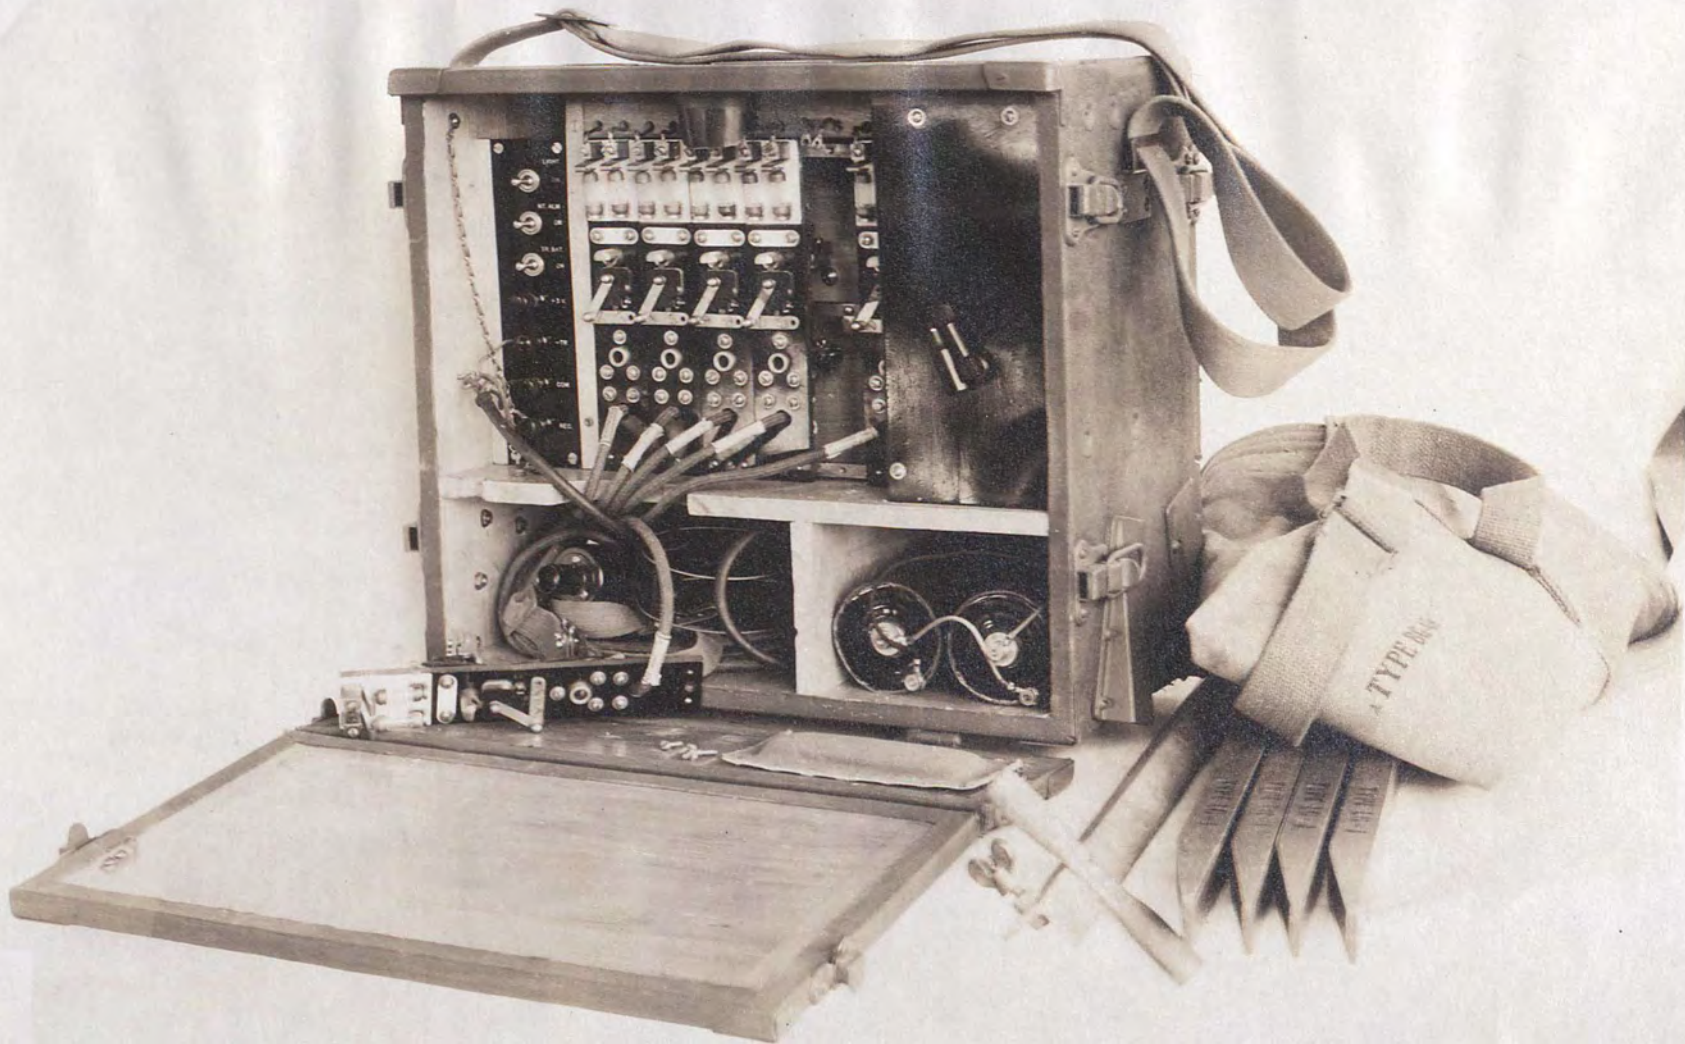
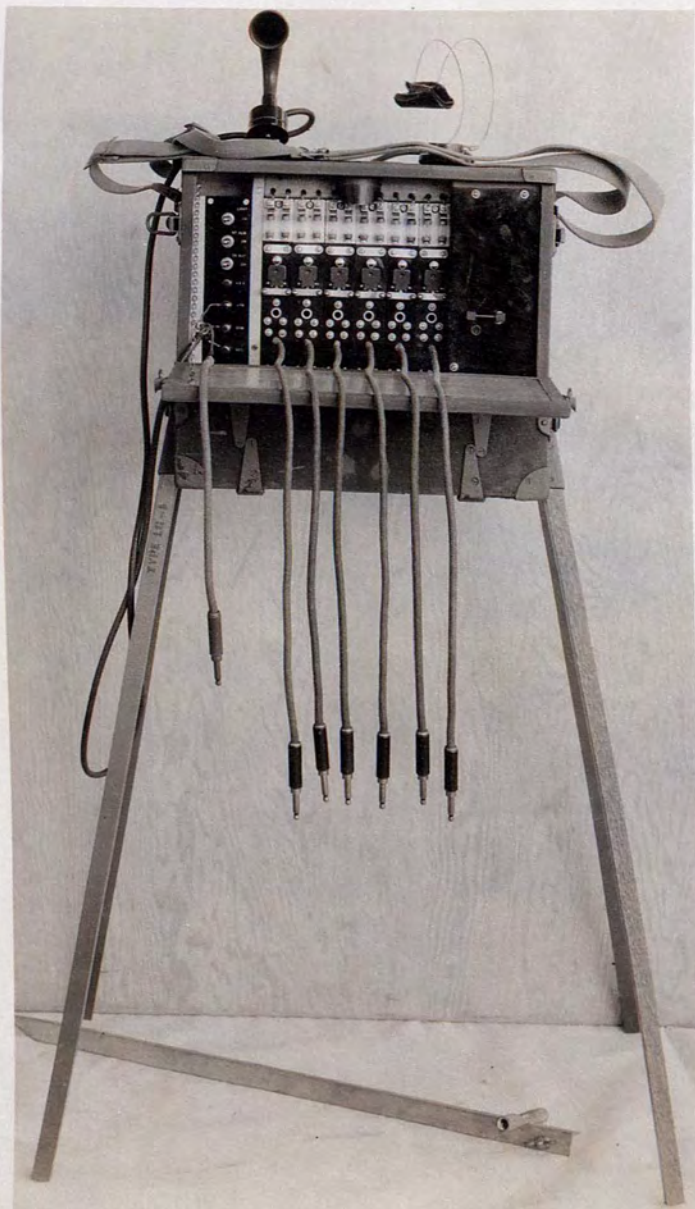
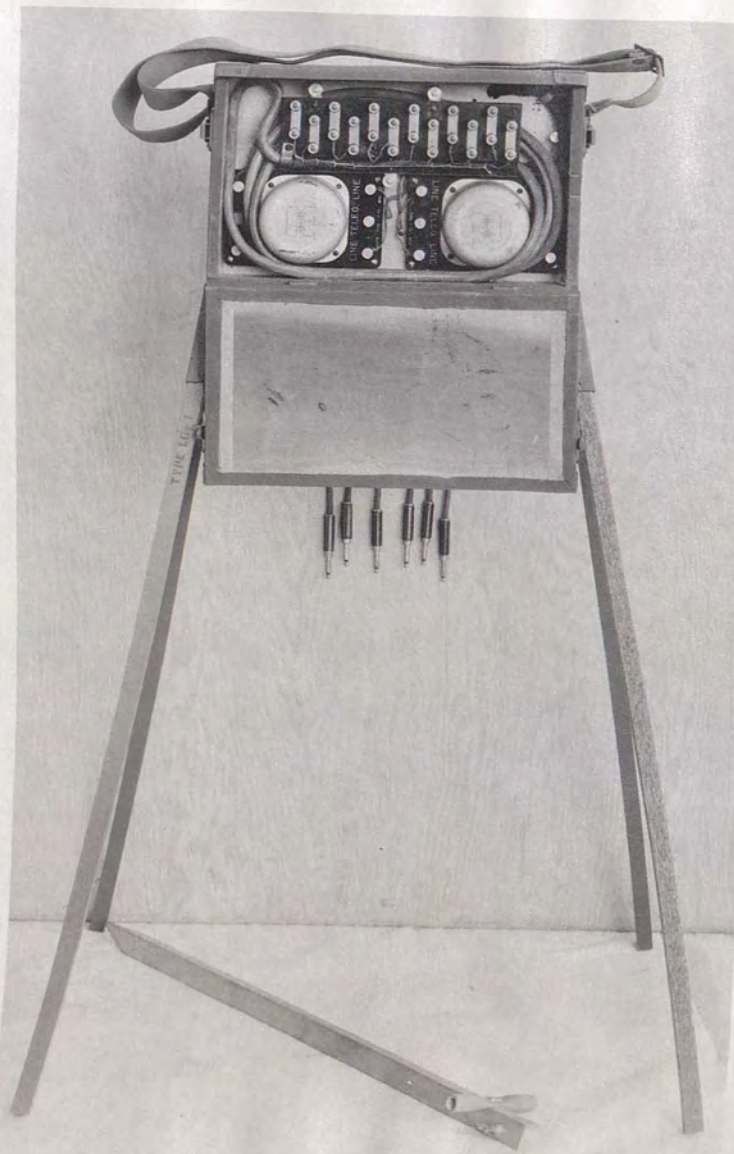

FIG. 1 - SWITCHBOARD BD-76-T2 AND SUPPLEMENTARY EQUIPMENT
FIG. 2 - SWITCHBOARD BD-76-T2, FRONT, OPEN
FIG. 3 - SWITCHBOARD BD-76-T2, BACK, OPEN
- Fig. 1 - Switchboard BD-76-T2 and supplementary equipment.
- Fig. 2 - Switchboard BD-76-T2, front, open.
- Fig. 3 - Switchboard BD-76-T2, back, open.
5. Fig. 1 shows the Switchboard BD-76-T2 packed and the Bag BG-49 containing the legs and ground stake. The chest is 9" deep, 14-1/2" high and 16" long. An adjustable web strap 1-1/2" wide is attached to the case for carrying. The switchboard, complete with batteries and coils, weighs 46 pounds. The bag and supplementary equipment weigh 7 pounds. Fig. 2 shows the switchboard set up for operation. Fig. 3 shows the back of the switchboard open, with the terminal strip, cable and coils in position.